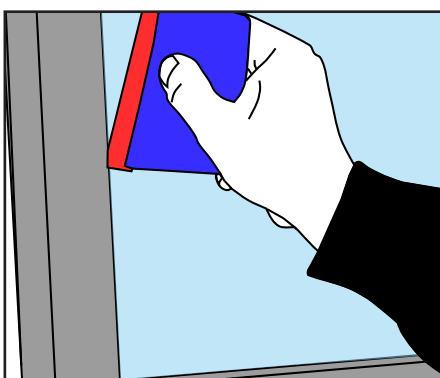

Figure 15
- › To finish, apply the edges firmly with the felt-covered squeegee. (FIG. 15)